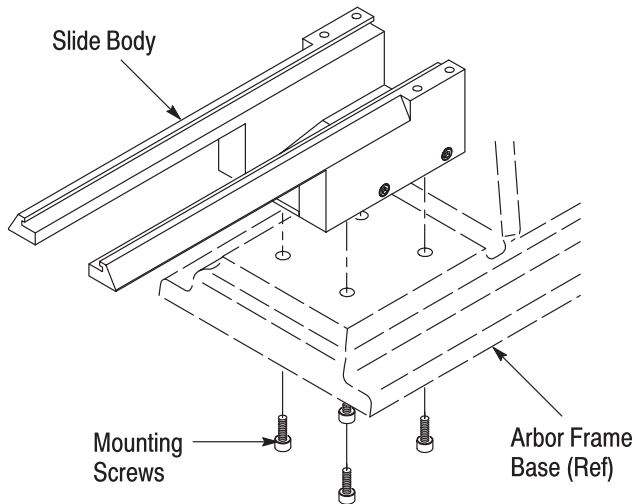

Figure 2
1. Place the slide body onto the base of the arbor frame, and align the screw holes in the bottom of the slide body with the holes in the base. Refer to Figure 2.